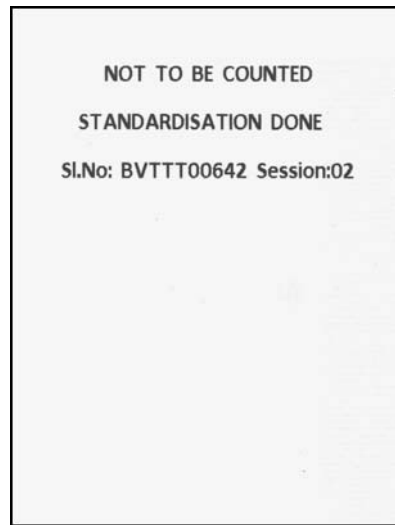

Figure 7.2 - Standardization Slip
- (a) When VVPAT - M3 is switched ON, the standardization slip is generated prior to the printing of POST Report. A sample photo of Standardization slip is shown in Figure 7.2.